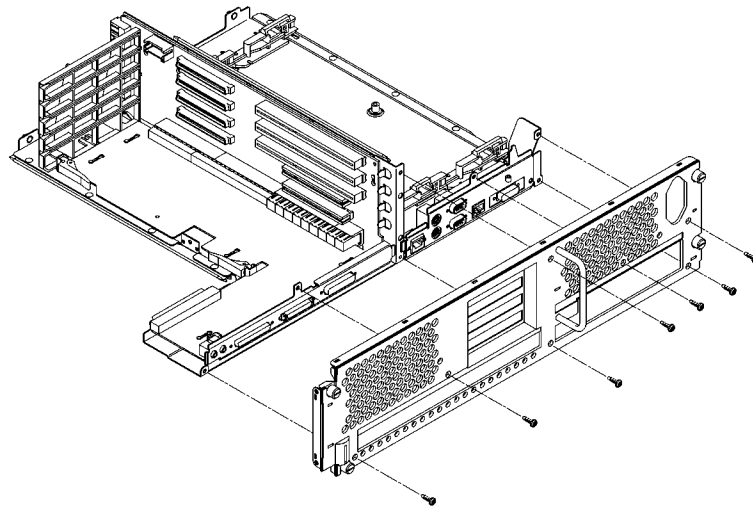

Figure 55 **Removing the Rear Panel**
- 1 Remove the 7 screws, as shown in Figure 55.